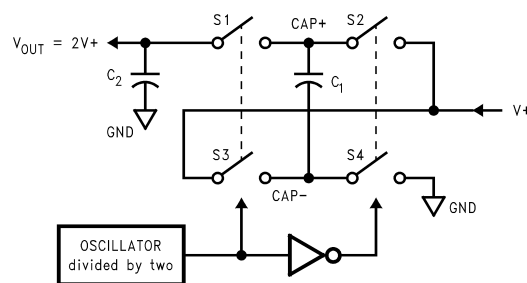

Figure 9. Voltage Doubling Principle
The LM2765 contains four large CMOS switches which are switched in a sequence to double the input supply voltage. Energy transfer and storage are provided by external capacitors. Figure 9 shows the voltage conversion scheme. When S_2 and S_4 are closed, C_1 charges to the supply voltage V_+ . During this time interval, switches S_1 and S_3 are open. In the next time interval, S_2 and S_4 are open; at the same time, S_1 and S_3 are closed, the sum of the input voltage V_+ and the voltage across C_1 gives the $2 V_+$ output voltage when there is no load. The output voltage drop when a load is added is determined by the parasitic resistance ($R_{ds(on)}$ of the MOSFET switches and the ESR of the capacitors) and the charge transfer loss between capacitors. See Application and Implementation for more details.
- R_{SW} is the sum of the ON resistance of the internal MOSFET switches shown in Figure 9. R_{SW} is typically 8 Ω for the LM2765. (1)